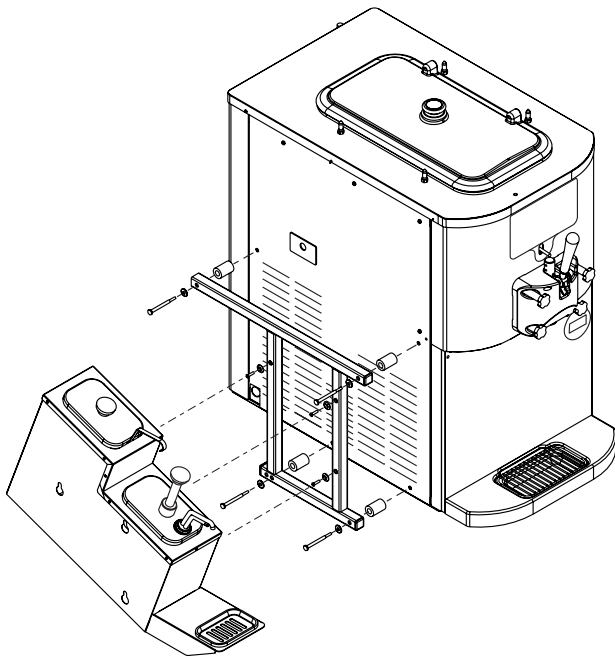

Figure 4
1. Remove the (4) panel screws as shown in Figure 4.